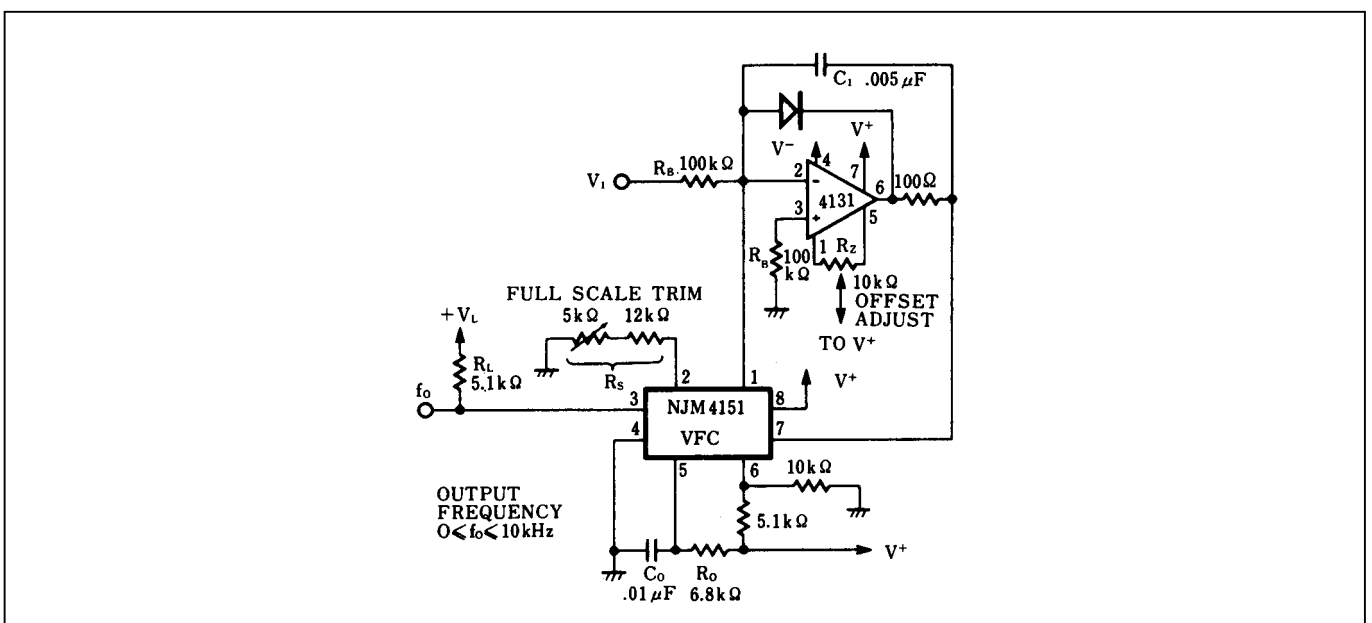

Figure 4. Precision Voltage-to-Frequency Converter
In this application (Figure 4) the NJM4151 VFC is used with an operational amplifier integrator to provide typical linearity of 0.05% over the range of 0 to -10V. Offset is adjustable to zero. Unlike many VFC designs which lose linearity below 10mV, this circuit retains linearity over the full range of input voltage, all the way to 0V.
1. Set $R_S = 14\text{k}\Omega$ or use a $12\text{k}\Omega$ resistor and $5\text{k}\Omega$ pot as shown in the figures. (The only exception to this is Figure 4.)
- b) For the precision mode circuit of Figure 4, set $R_B = V_{10}/100\mu\text{A}$ where V_{10} is the full scale input voltage. Alternately the op-amp inverting input (summing node) can be used as a current input with full scale input current $I_{10} = -100\mu\text{A}$.
- I. Design a precision VFC (from Figure 4) with $f_0 = 100\text{kHz}$ and $V_{10} = -10\text{V}$.